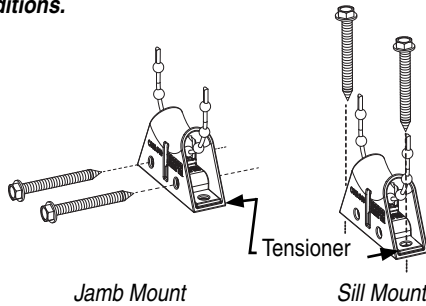

Figure 9
⑨ Cord tension device comes installed on bead chain (see Fig. 9). Install cord tension device to wall, jamb or sill. To install, pull tensioner down so that the bead chain is held taut and use the mounting hardware to keep it taut. The bead chain should be taut enough so it will move smoothly through the device. If there is not enough tension, the device will not allow the bead chain to pass through and operate the shade. This device is designed so that children cannot pull the bead chain away from the wall or fit their head into the loop. See safety note on page 1.